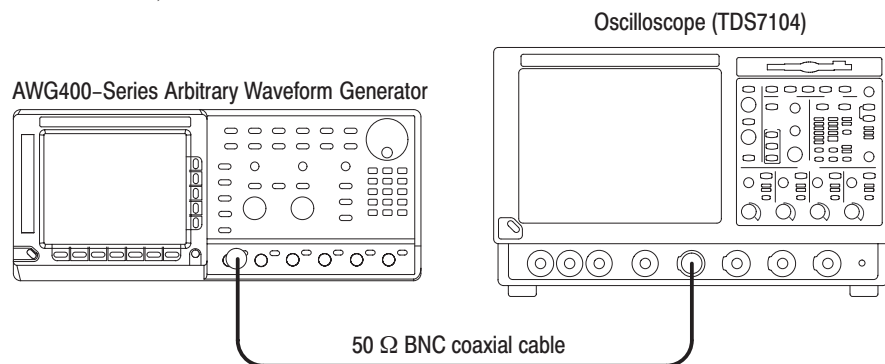

Figure 4–20: Direct DA output pulse rise time initial test hookup
- a. Use the 50 Ω BNC coaxial cable to connect the AWG400-Series CH1 output connector to the oscilloscope CH1 input connector (see Figure 4–20).